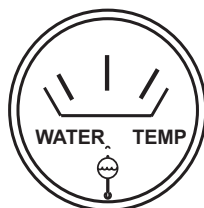

Figure 26. Coolant Temperature Gauge
14. The coolant temperature gauge (Figure 26) will indicate the coolant temperature. Under normal operating conditions the coolant temperature is between 165 and 215 degrees fahrenheit.